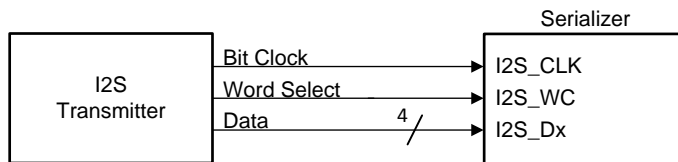
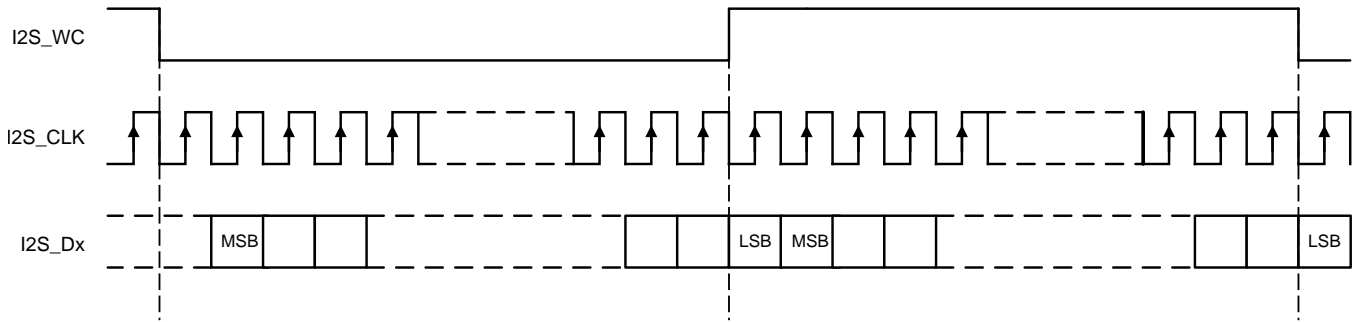

Figure 15. I2S Connection Diagram
图 16. I2S Frame Timing Diagram
The DS90UH949A-Q1 serializer features six I2S input pins that, when paired with a compatible deserializer, supports 7.1 High-Definition (HD) Surround Sound audio applications. The bit clock (I2S_CLK) supports frequencies between 1 MHz and the lesser of IN_CLK/2 or 13 MHz. Four I²S data inputs transport two channels of I2S-formatted digital audio each, with each channel delineated by the word select (I2S_WC) input. Refer to Figure 15 and Figure 16 for I2S connection diagram and timing information.